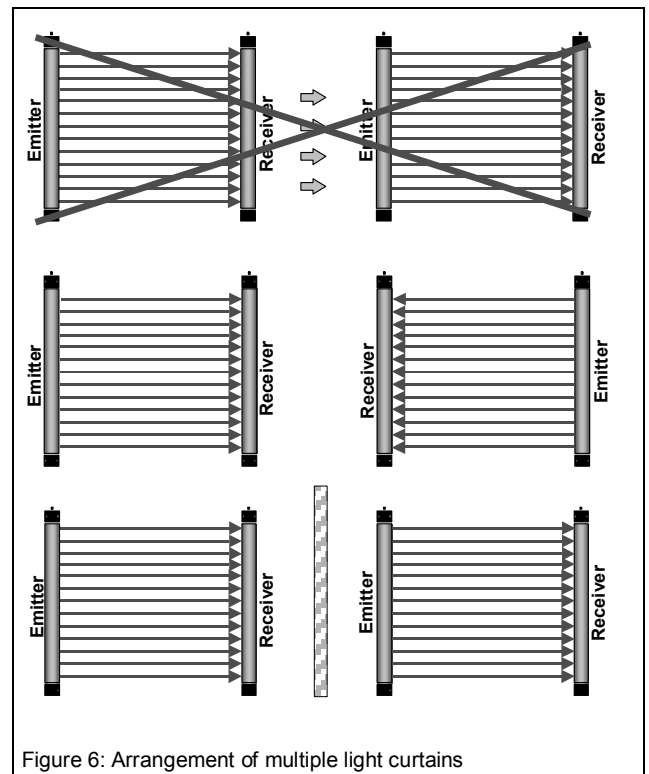

Figure 6: Arrangement of multiple light curtains
- ☑ When using multiple light curtain systems near one another, no emitter beams can be emitted in the direction of another system's receiver. The light curtain systems could interact with one another. For elevators with door openings at both ends of the cabin, the emitter and receiver door edges of the two doorways should therefore be arranged alternately to one another (figure 6).